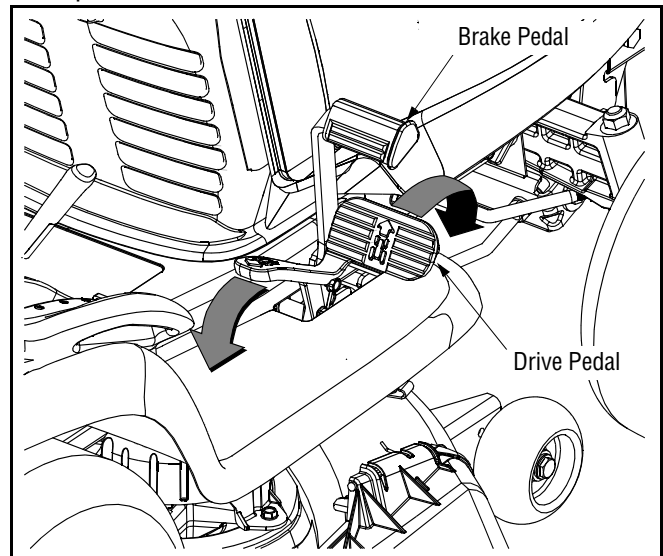

Figure 9
- To travel FORWARD, slowly depress the upper portion of the drive pedal forward until the desired speed is achieved. See Figure 9.
- To travel in REVERSE, check that the area behind is clear then slowly depress the lower portion of the drive pedal with the ball of your foot (NOT your heel) until the desired speed is achieved. See Figure 9.